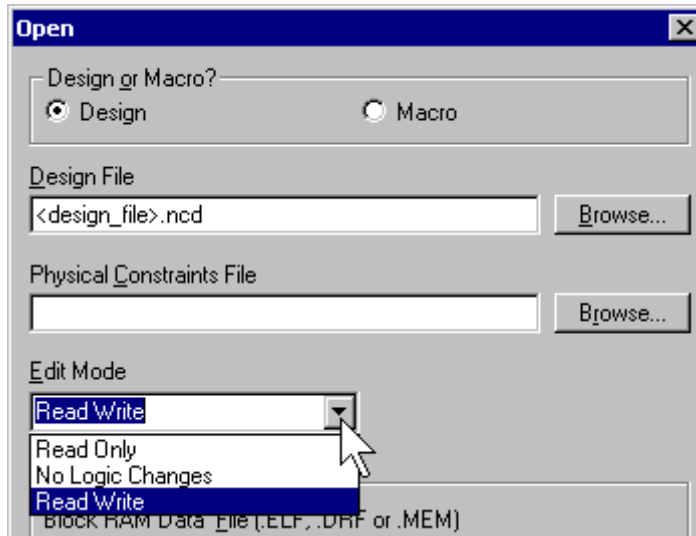

Figure 6: Enable User Editing in FPGA Editor
- Select **File → Open**. Select the *.ncd file for the completed design. Set the **Edit Mode** to "Read Write" mode as shown in Figure 6.